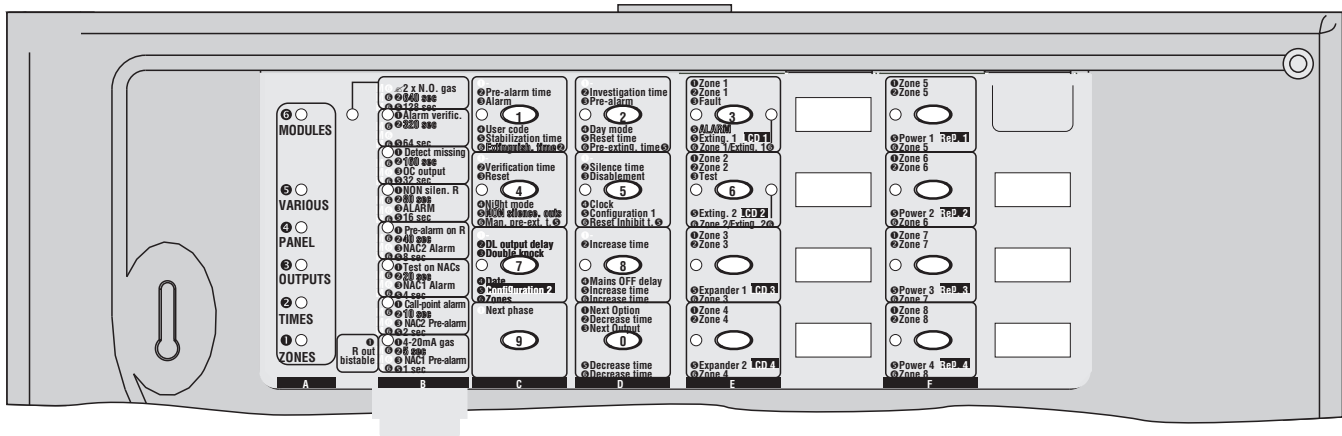

Figure 29 Using the Programming Overlay with a J408 Control panel
4. Remove the cut-outs (for the LEDs), and insert the tabs of the Programming Overlay into the Zone label slots, as shown in Figure 29.
5. Press the **Next Phase** key 9 then select the group of parameters that you want to program: ZONES, TIMES; OUTPUTS; PANEL or VARIOUS (refer to the respective paragraph for details) *or*, if you want to program the Extinguishment Modules, press and hold (for at least 2 seconds) key 3 or key 6, respectively, Extinguishment Module nr. 1 and Extinguishment Module nr. 2 (refer to “Programming Modules” for details). The respective LED in column **A** will turn On to indicate the group of parameters concerned.